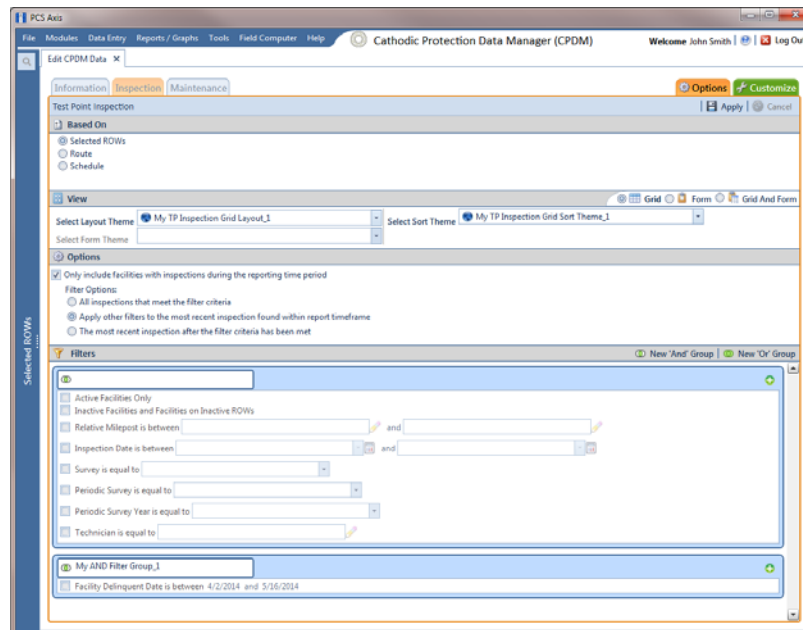

Figure 7-90. Options
- 14 To apply one or more filters to the data entry grid (Figure 7-90, page 306):